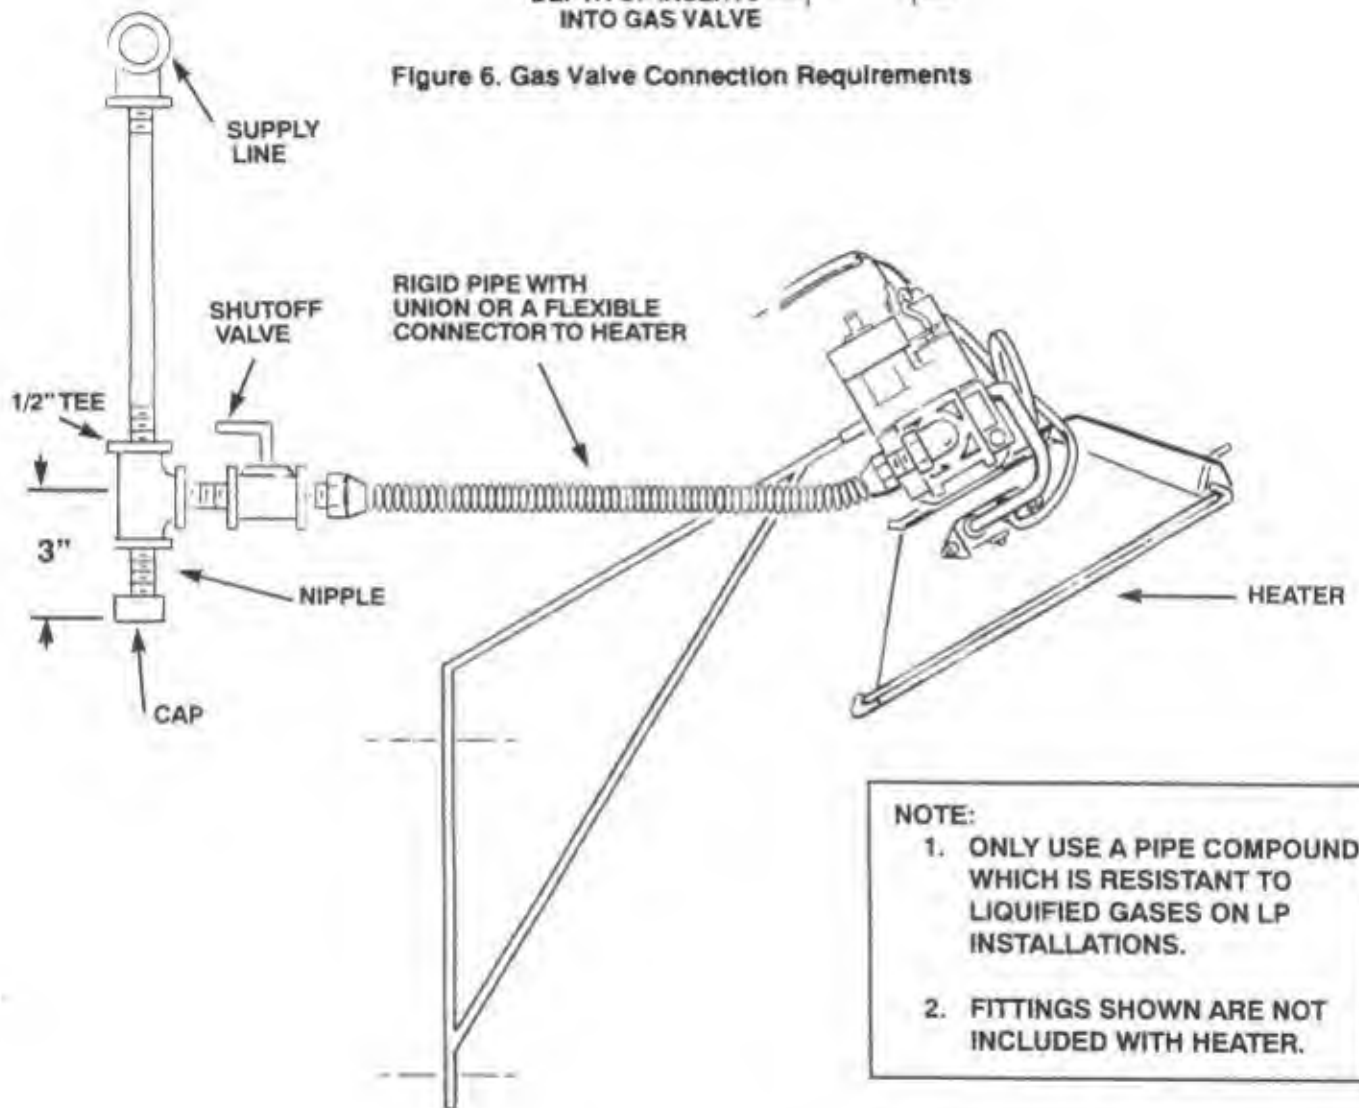

Figure 7. Typical Piping Installation
- A sediment trap meeting the typical requirements of Figure 7 shall be installed in the line to the gas valve.